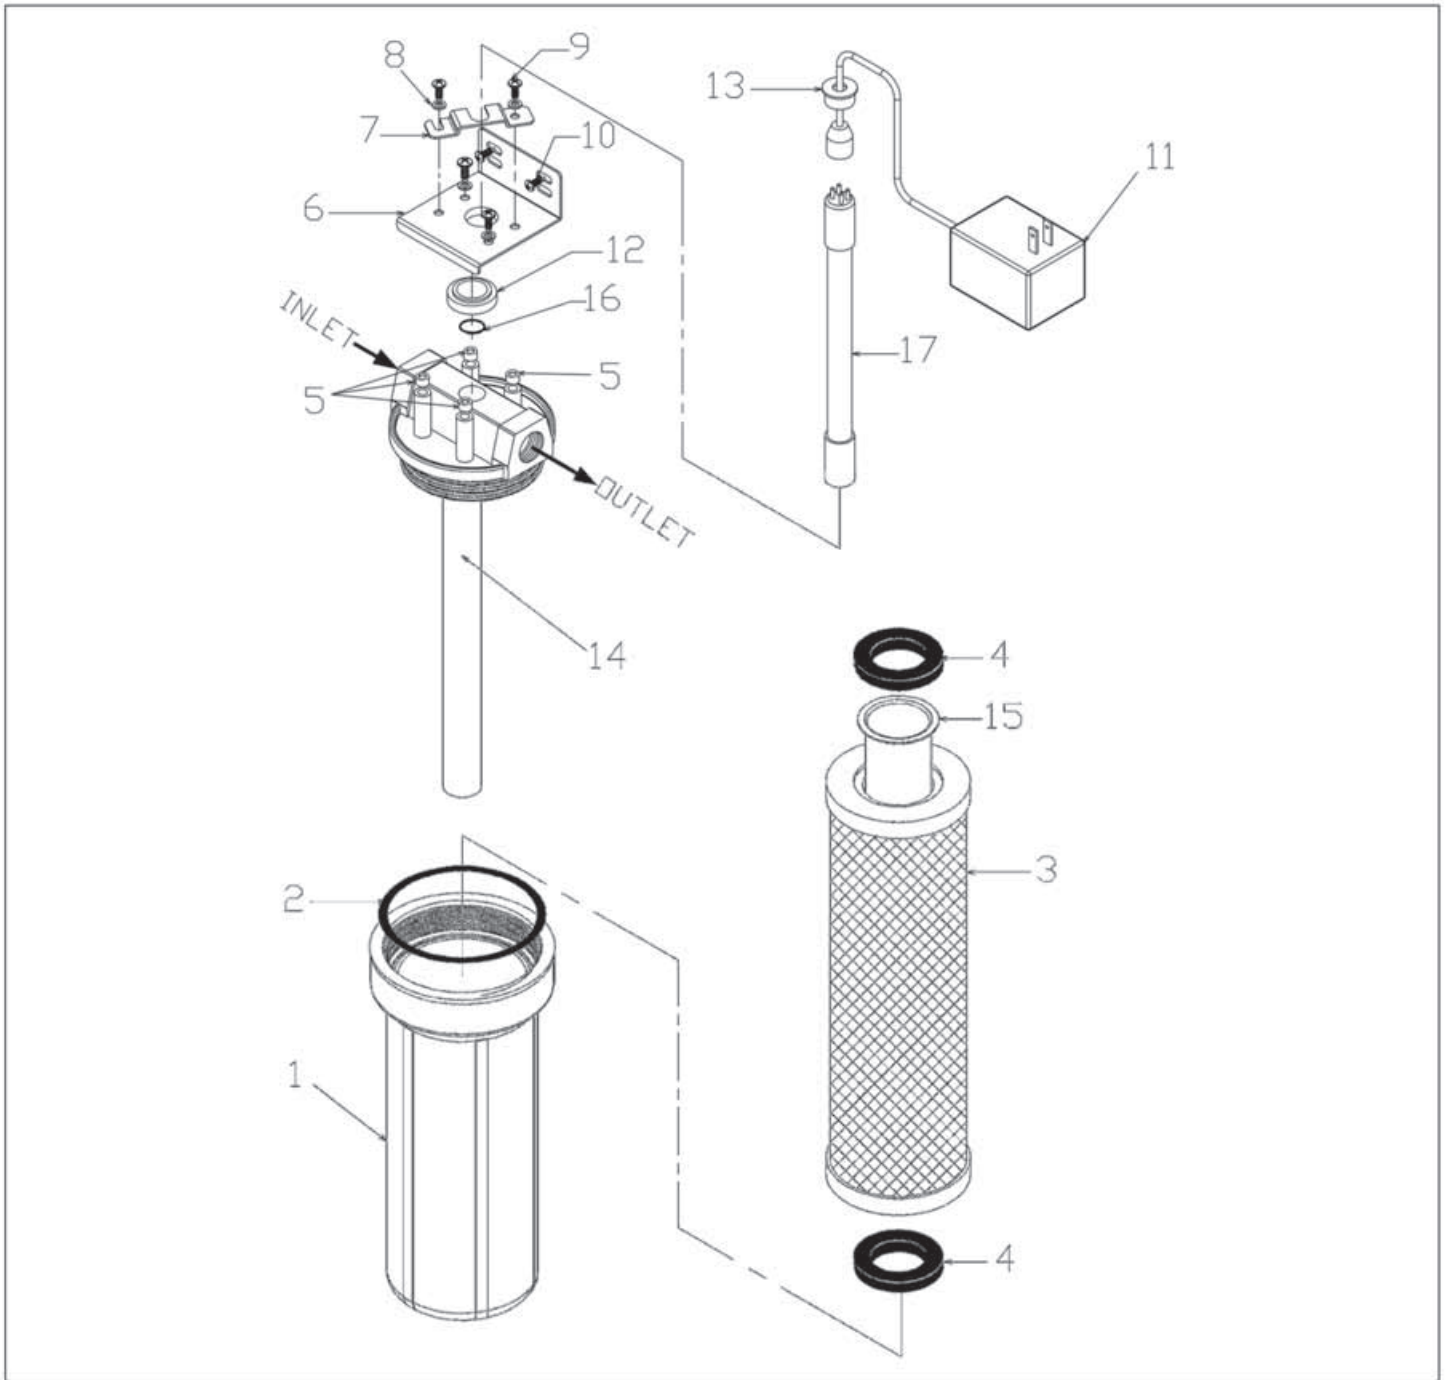

Figure 7 Exploded Schematic, PURA UV1 Series
NOTE: All Item callouts refer to Figure 7.
2. Install EPCB™ Sleeve (Item 15) into EPCB™ Carbon Filter (Item 3) as shown in Figure 7.
3. Insert filter/sleeve assembly into sump as shown in Figure 7 with both Filter Gaskets (Item 4) in place.
CAUTION: Verify that inlet and outlet ports are connected to appropriate inlet/outlet pipes (see Figure 7).